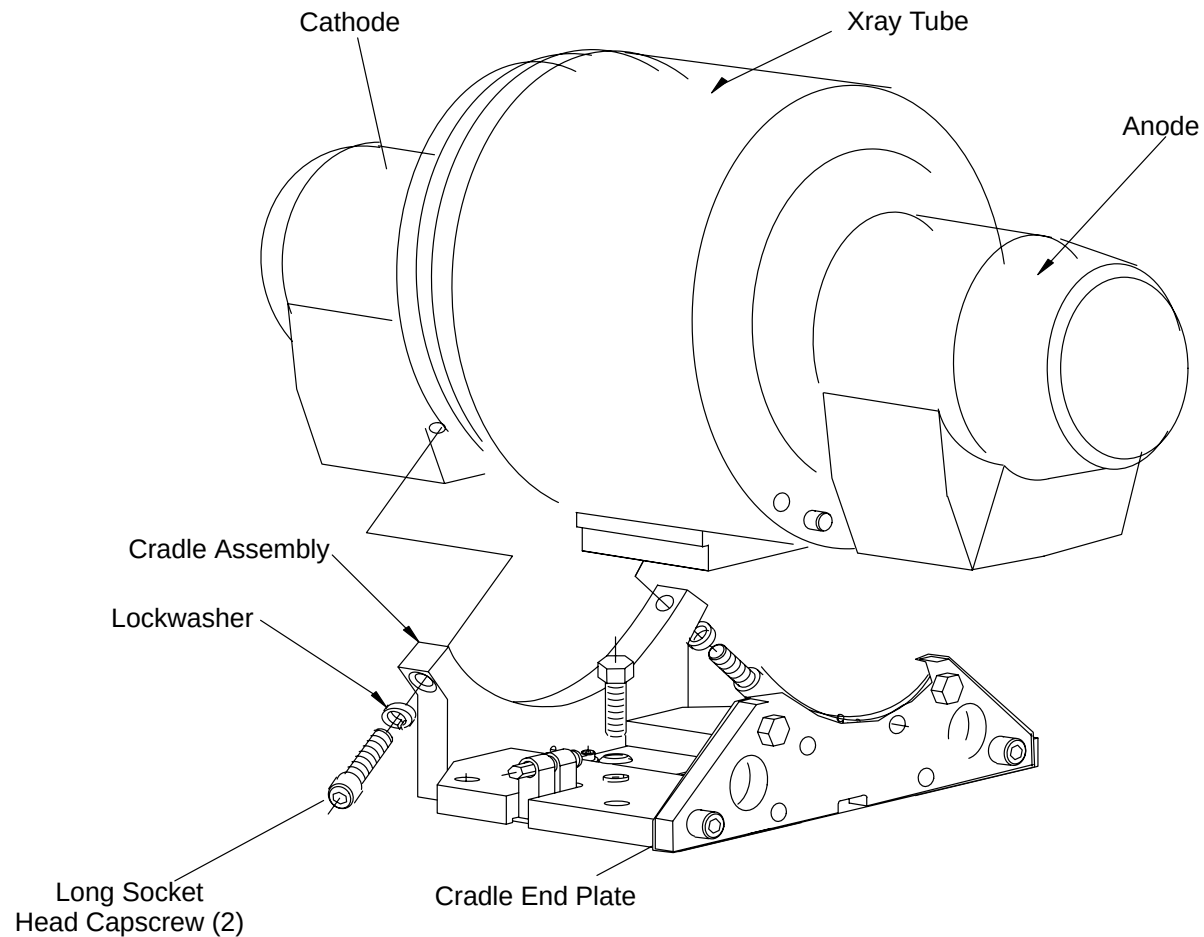

FIGURE 254 Cradle Assembly
23. Attach Cradle Assembly to Xray Tube. Follow illustration in Figure 254 for proper installation. Torque Mounting Hex Head and Socket Head Screws to 15 ft–lbs. alignment Pins.